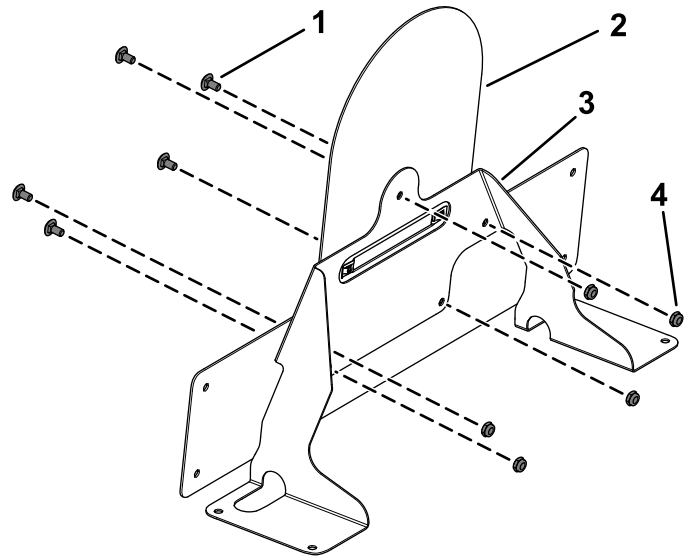

Figure 22
8. Secure the speed-plate mount to the marker mount using 5 carriage bolts (1/4 x 1/2 inch) and 5 locknuts (1/4 inch) as shown in Figure 22.